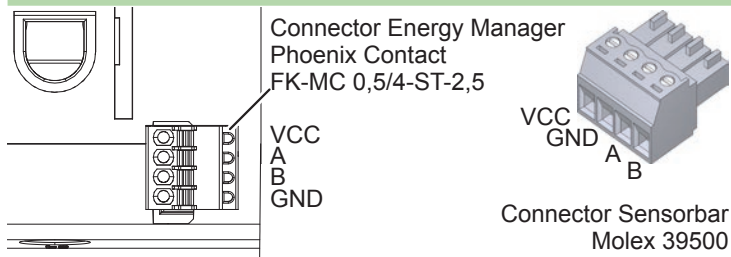

Fig. 4: Wiring the Sensorbars to the Energy Manager
- ▶ Connect the Sensorbar and Energy Manager connectors to the standard cable 2466C. Fig. 4 shows the wire assignment.